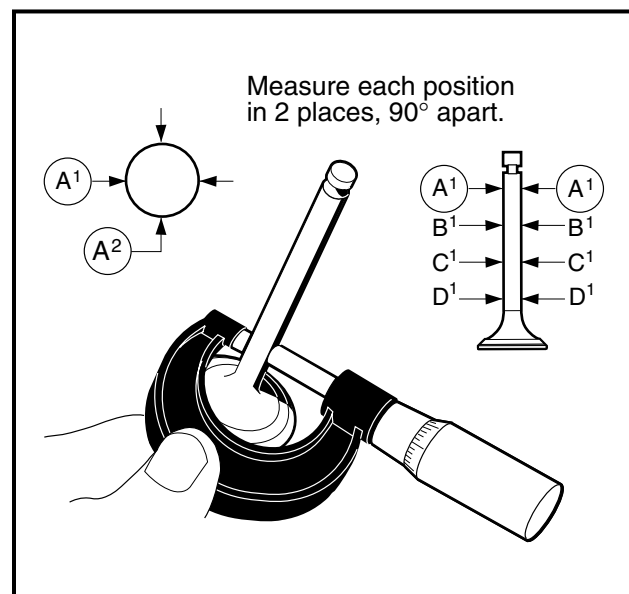

Figure 18-27 Measure Valve Stem Diameter
1. Use a micrometer to measure the diameter of the stem at several points along its length (**Figure 18-27, Page 18-14**).